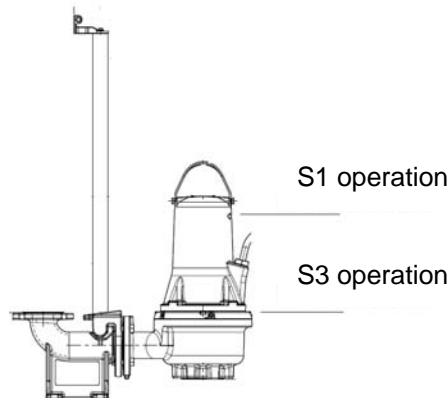

Fig. 2 Stop levels
- **S1 operation** (continuous operation), the pump must always be covered by the pumped liquid to the top of the motor. See fig. 2.
- **S3 operation** (intermittent duty), the pump must always be covered by the pumped liquid up to the top of the pump body. See fig. 2 (only for non explosion-proof versions).